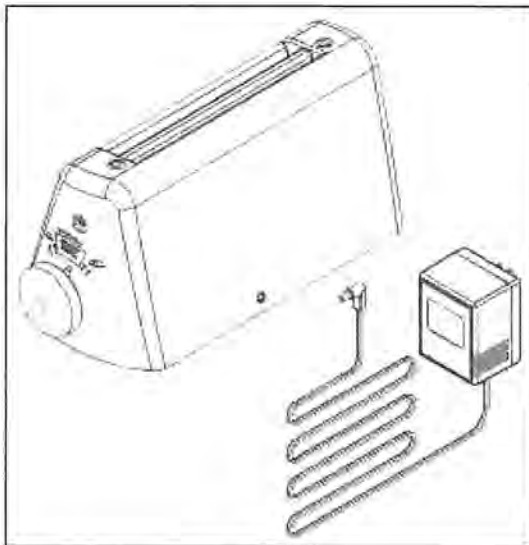

Figure 2
1. Carefully unwind the wall power supply and firmly insert the appropriate end into the connector located on the back of the paper folder (Figure 2).
7. After the jam has been cleared, close the dejamming door (if open), and return the dejamming handle to its storage location on the bottom of the folder. Reconnect the wall power supply (Figure 2).